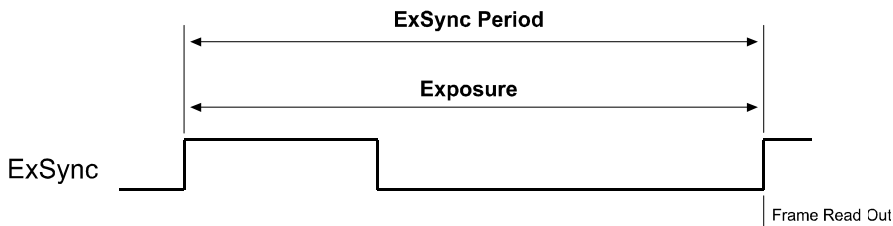

Figure 3-3: ExSync Edge-Controlled Mode
- In **ExSync edge-controlled** mode, the pixels are exposed and charge is accumulated over the full period of the ExSync signal (rising edge to rising edge). The falling edge of the ExSync signal is irrelevant. The frame is read out and transferred on the rising edge of ExSync (see Figure 3-3).